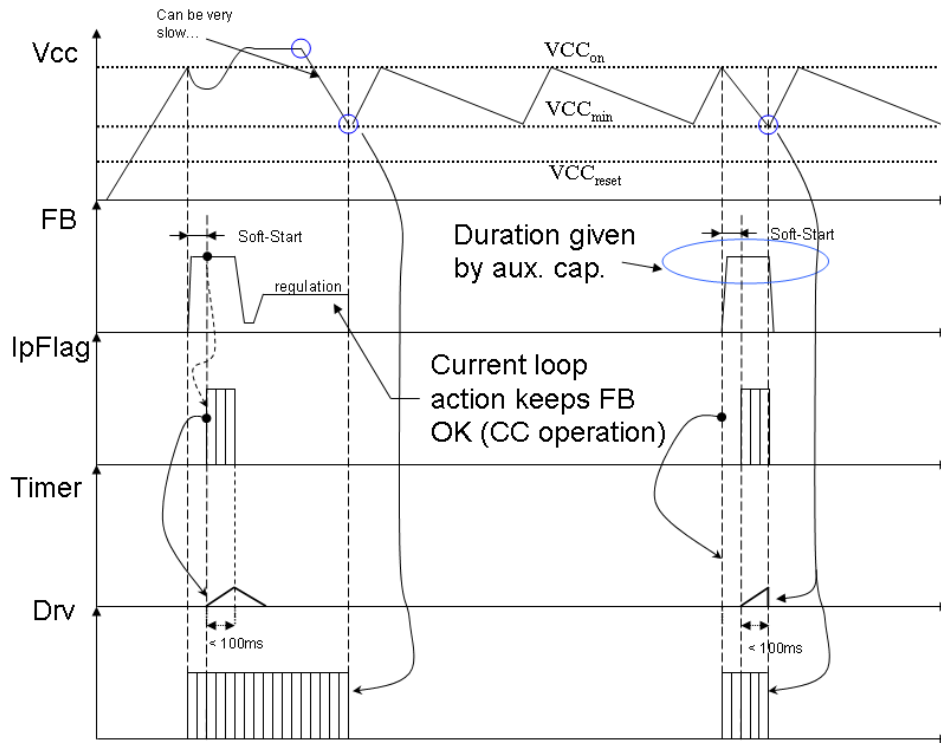

Figure 20. First Fault Mode Case, the Auxiliary Winding Collapses but Feedback is Still There
1. The converter regulates but the auxiliary winding collapses: this is a typical situation linked to the usage of a constant-current / constant-voltage (CC-CV) type of controller. If the output current increases, the voltage feedback loop gives up and the current loop takes over. It means that  $V_{\text{OUT}}$  goes low but the feedback loop is still closed because of the output current monitoring. Therefore, seen from the primary side, there is no fault. However, there are numerous charger applications where the output voltage shall not go below a certain limit, even if the current is controlled. To cope with this situation, the controller features a precise under-voltage lockout comparator biased to a  $V_{\text{CCmin}}$  level. When this level is crossed, whatever the other pin conditions, pulses are stopped and the controller enters the safe hiccup mode, trying to re-start. Figure 20 shows how the converter will behave in this